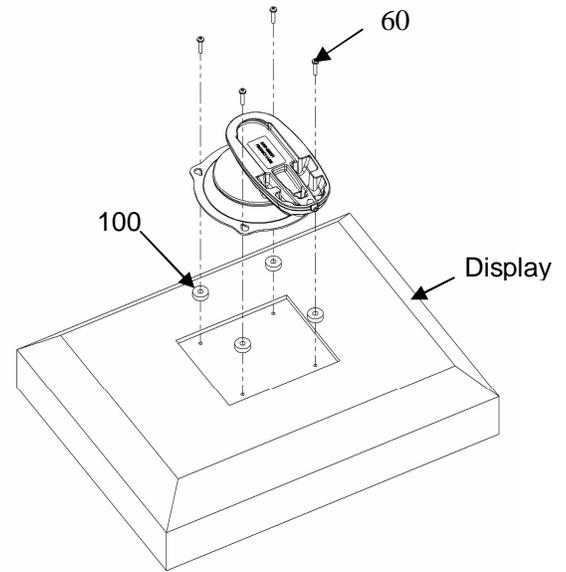

Figure 3. Recess Mount Centris Bracket to Display
2. Select four screws M4 x 20mm screws (60) and four spacers (100) from parts bag.
3. Place four spacers (100) over mounting holes on back of display (see Figure 3).
5. Install four M4 x 20mm screws (60) to attach Centris bracket to display (see Figure 3).
6. Tighten four M4 x 20mm screws (60) screws.